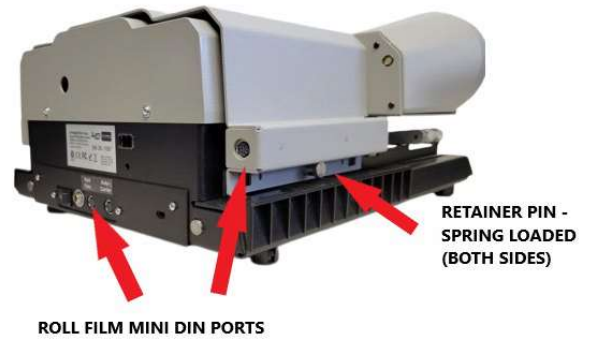

Figure 11
- c. Lower the roll film carrier so that it rests on the carrier support brackets with the retainer pins and retainer holes aligned. *Figure 11*
- f. Connect the 8-pin Mini-Din cable into the back of the roll film carrier and the back of the scanner. Make sure the cables are aligned properly. *Figure 11*